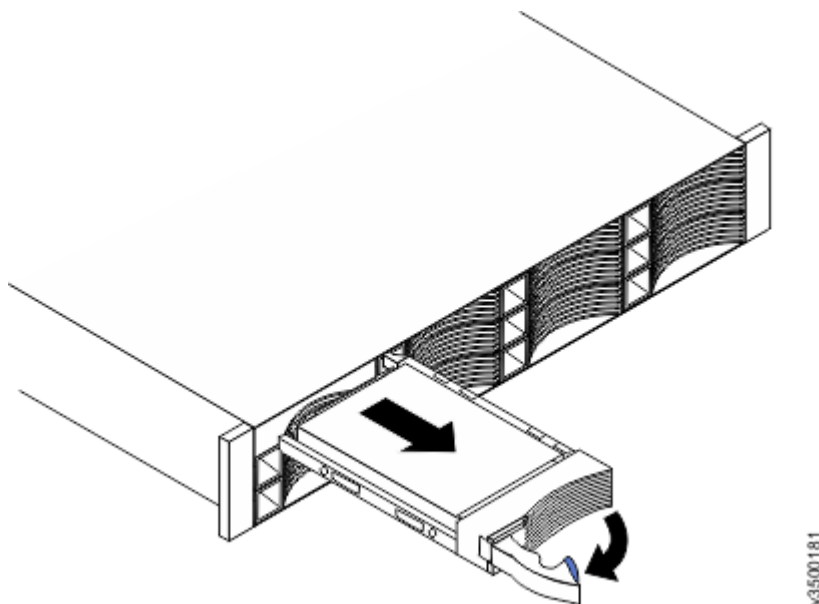

Figure 100. Unlocking and removing a 3.5-inch drive from its slot
5. Pull out the tray handle to the open position (see Figure 100 on page 158).